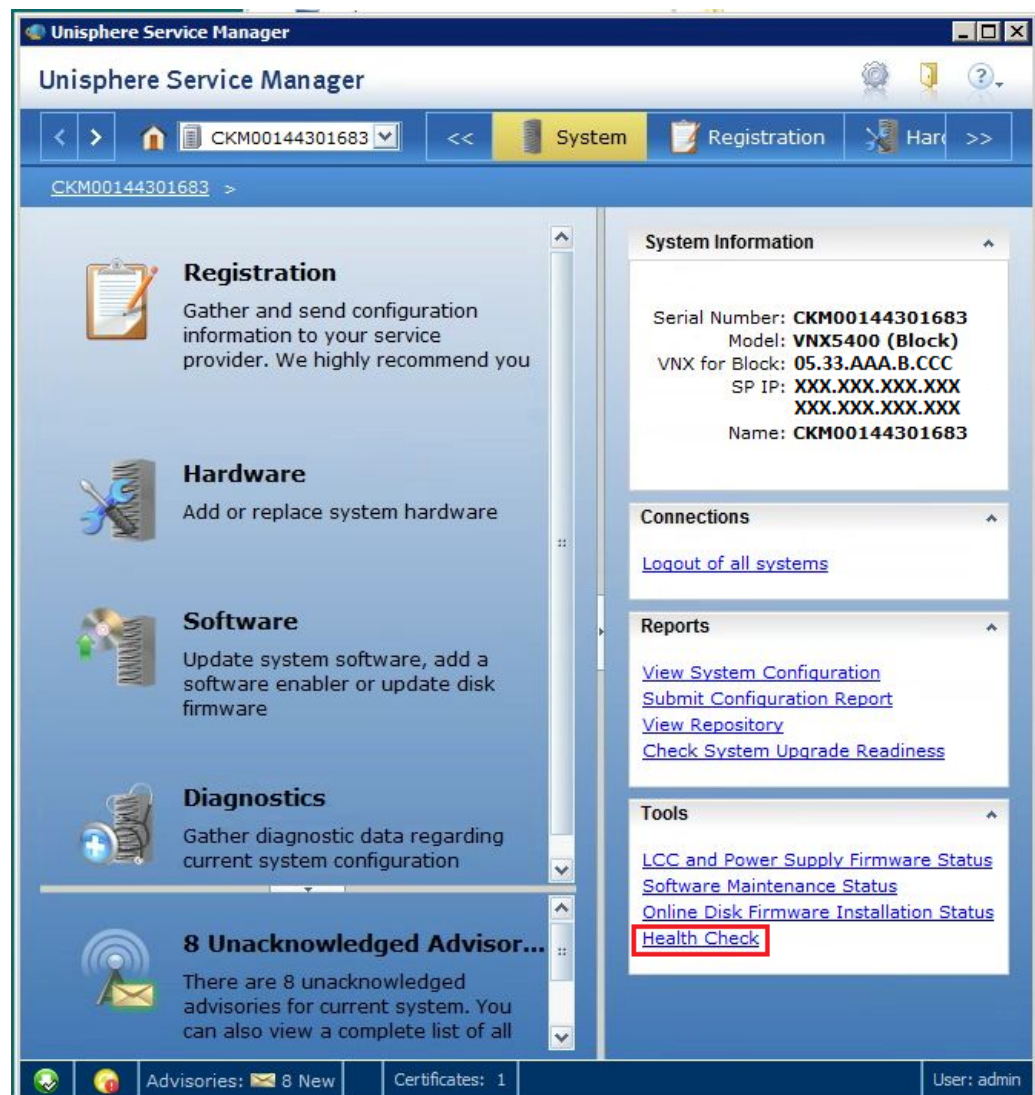

Figure 6 Health Check
3. Click **Health Check** in the “Tools” area (see Figure 6). A window opens and the health check is being performed.